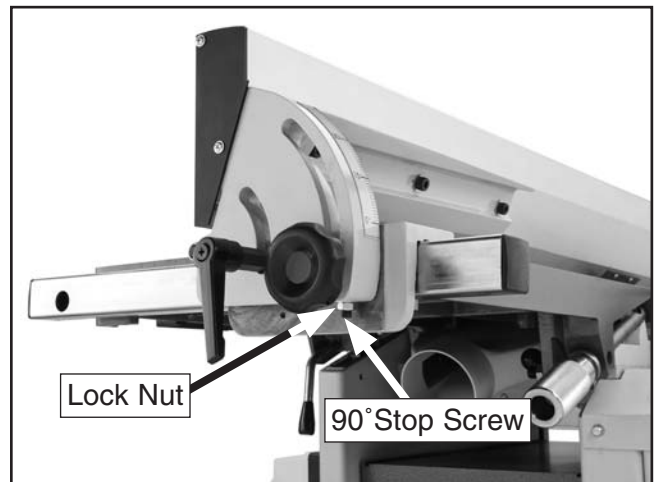

Figure 9. Adjusting fence to 90°.
1. Loosen the lock nut on the 90° fence stop screw shown in **Figure 9**, and loosen the fence tilt knob.